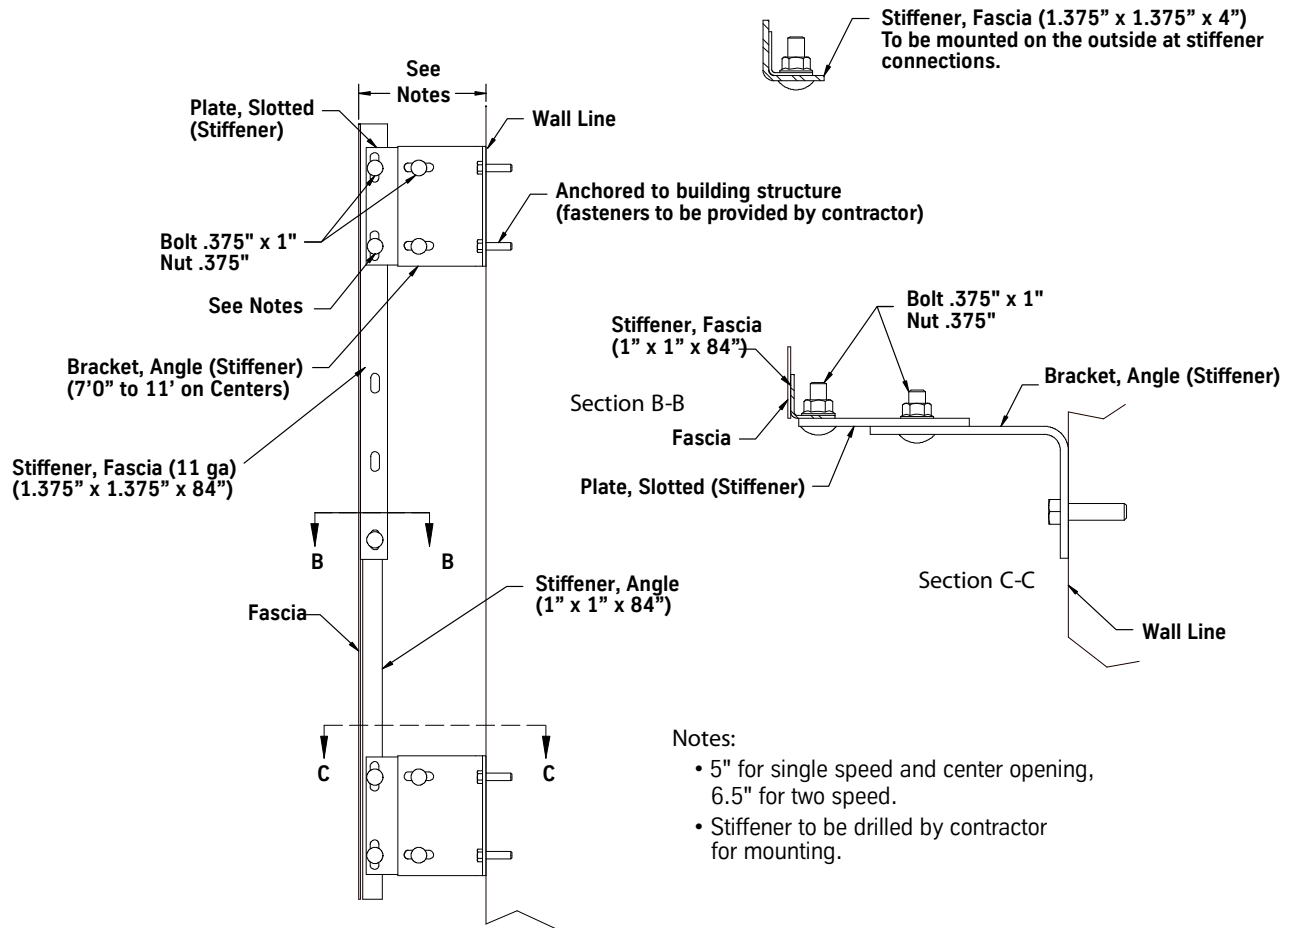

Figure 46 - Stiffener Angle Support Installation
5. Use #10 screws to attach fascia plates to the support angles on both sides. See Figure 46 on page 50.